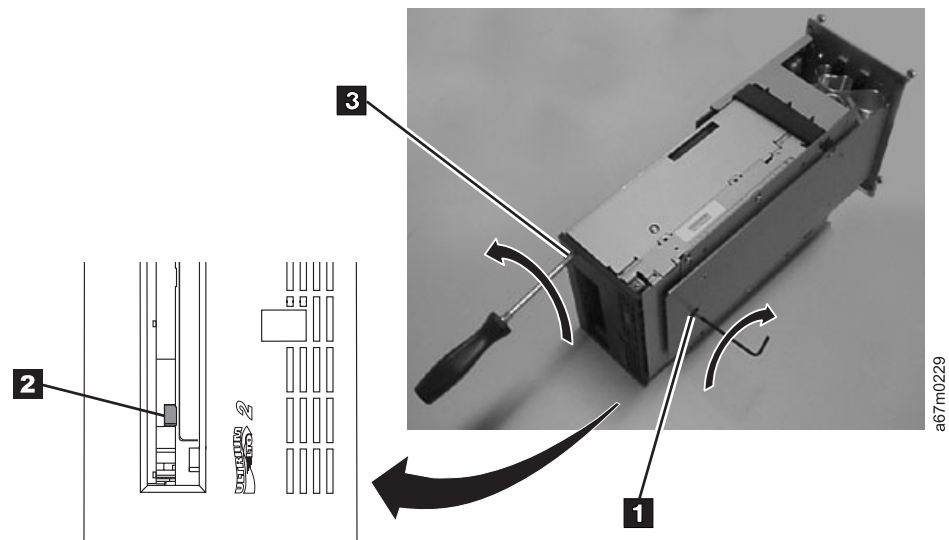

Figure 136. Determining whether the tape is broken. The view is from the front of the drive.
- 6. Locate the access hole at the bottom of the unit **1** in Figure 136.
- 7. Insert a 2.5-mm allen wrench into the access hole **1** in Figure 136 and position the wrench so it is seated in the screw of the supply reel motor (not visible).
- 8. Push open the door of the cartridge load compartment and locate the flag **2** in Figure 136 on the drive's takeup reel.
- 9. To determine whether the tape is broken, watch the flag **2** in Figure 136 on the drive's takeup reel while you rotate the allen wrench **1** in Figure 136 clockwise (do not let the wrench move counterclockwise):
- If the takeup reel does not turn when you rotate the supply reel motor screw clockwise with the allen wrench and if supply reel motor screw rotates freely, the tape is broken. You must determine the location of the leader block. To do so, insert a small-blade screwdriver or potentiometer-setting tool into the access hole for the loader motor gear **3** in Figure 136 on page 296. Rotate the screwdriver counterclockwise. You may have to rotate for a lengthy period:
- ___ 11. With the allen wrench still inserted into the bottom access hole, insert a small-blade screwdriver or potentiometer-setting tool into the access hole for the loader motor gear **3** (see Figure 136 on page 296).
- ___ 12. While keeping torque on the supply reel motor screw and rotating the allen wrench **1** (see Figure 136 on page 296) clockwise, rotate the loader motor gear with the small-blade screwdriver **3** (see Figure 136 on page 296) counterclockwise (see arrow). As you rotate the screwdriver, the allen wrench moves slightly.